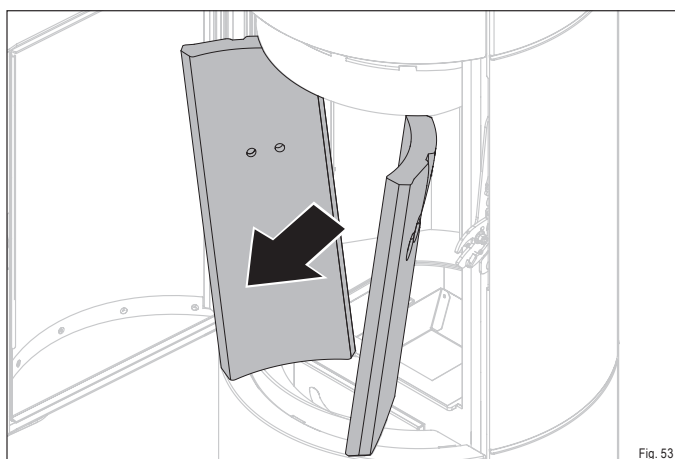

Fig. 53
- ▶ Remove the two firebricks at the side (Fig. 53).